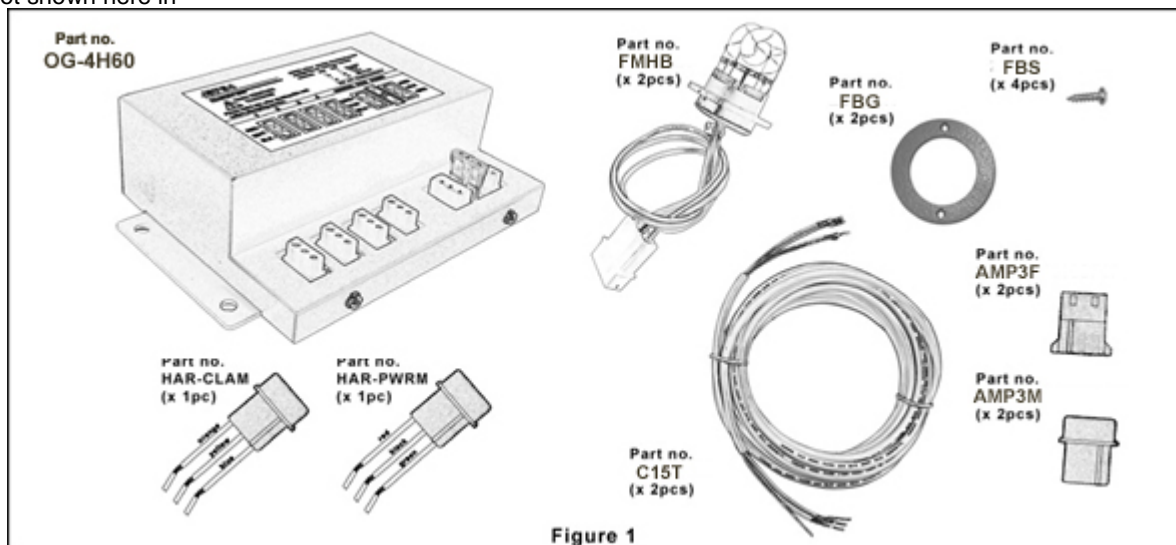

Fig.1.
- I. **Ensure that all the necessary parts are enclosed;** refer to Fig.1. Other optional accessories may be enclosed in the package, but not shown here in